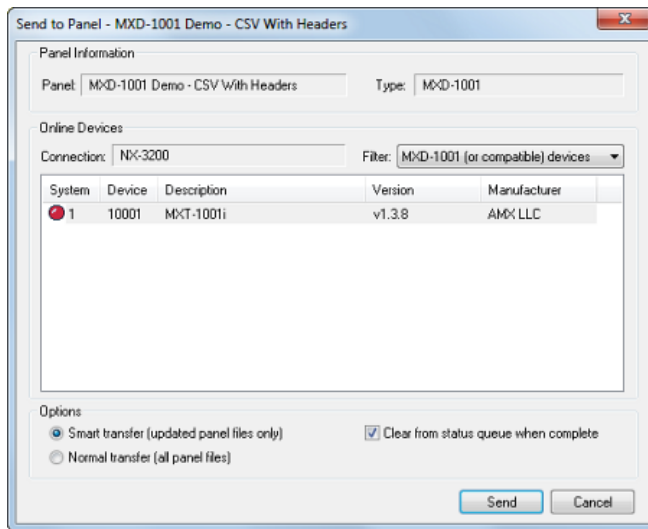

FIG. 197 Send To Panel dialog
2. Select the connection configuration for the target NX Master from the *Connection* drop-down list, and click **Connect**. Once a connection has been established with the Master, select **Transfer > Send to Panel** to open the *Send to Panel* dialog (FIG. 197):